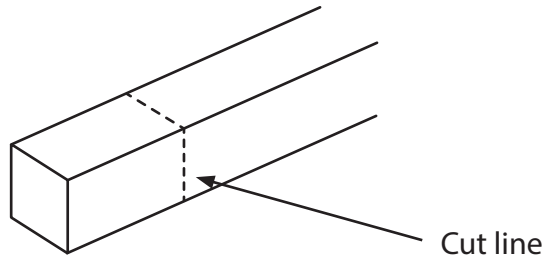

Figure 1
- 1** Figure 1 shows a piece of 12mm square mild steel bar that is to be cut in the position shown.